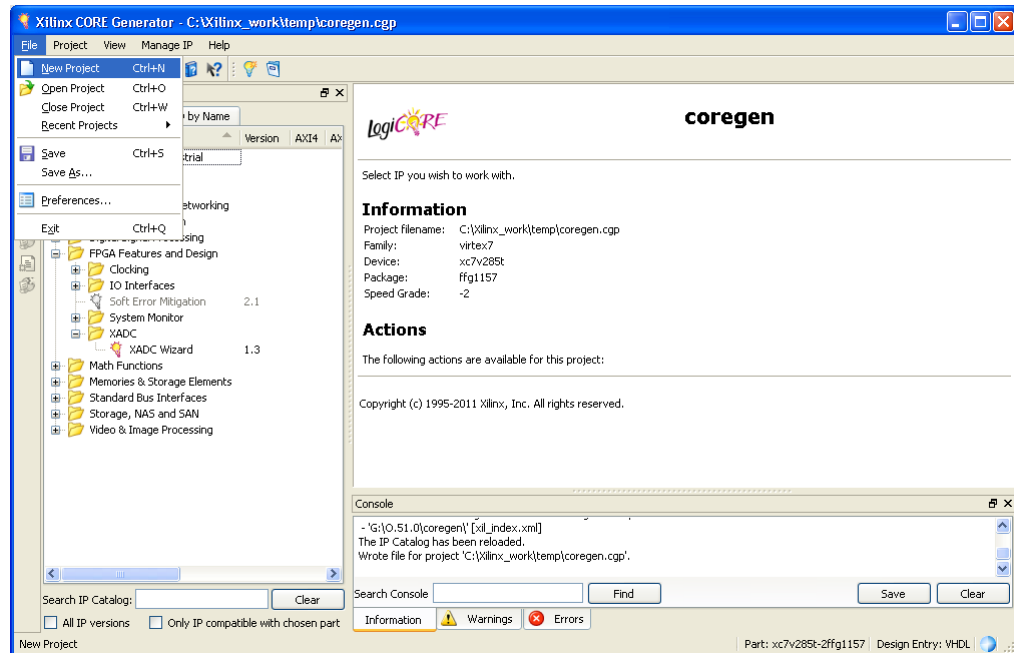

Figure 3-1: New Project
3. Choose **File > New Project** (Figure 3-1).